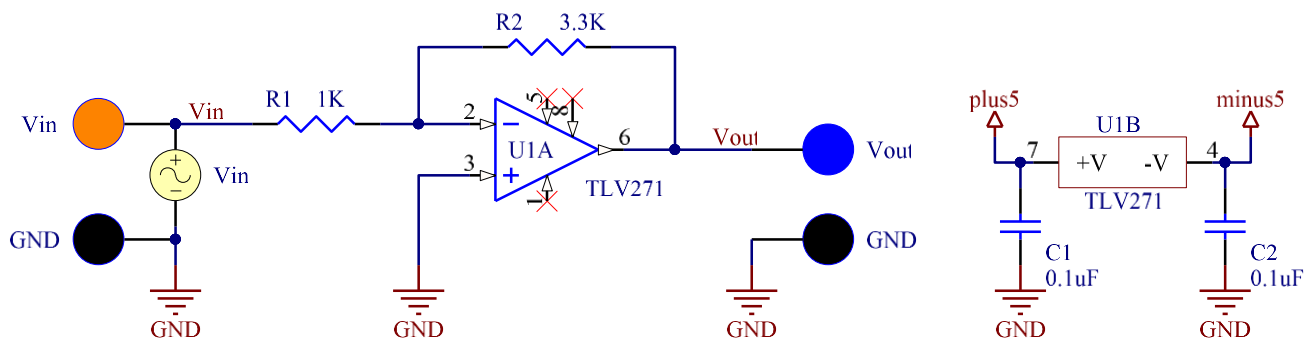

Figure 6: Inverting amplifier with low gain.
8. **We are going to build a simple inverting amplifier with low gain.** The schematic is shown in Fig. 6. Determine the theoretical gain (Theory), V_{out}/V_{in} , of this circuit. $Gain_{LOW} =$ _____ -3.3 _____. Build this circuit on the breadboard. Since you got the circuit in Figs 1 and 4 running you- can skip using the 100 Ω current limiting resistors. They were there to prevent the destruction of the op-amp in case the circuit was built wrong. The assumption being you built it correctly and will this time too.